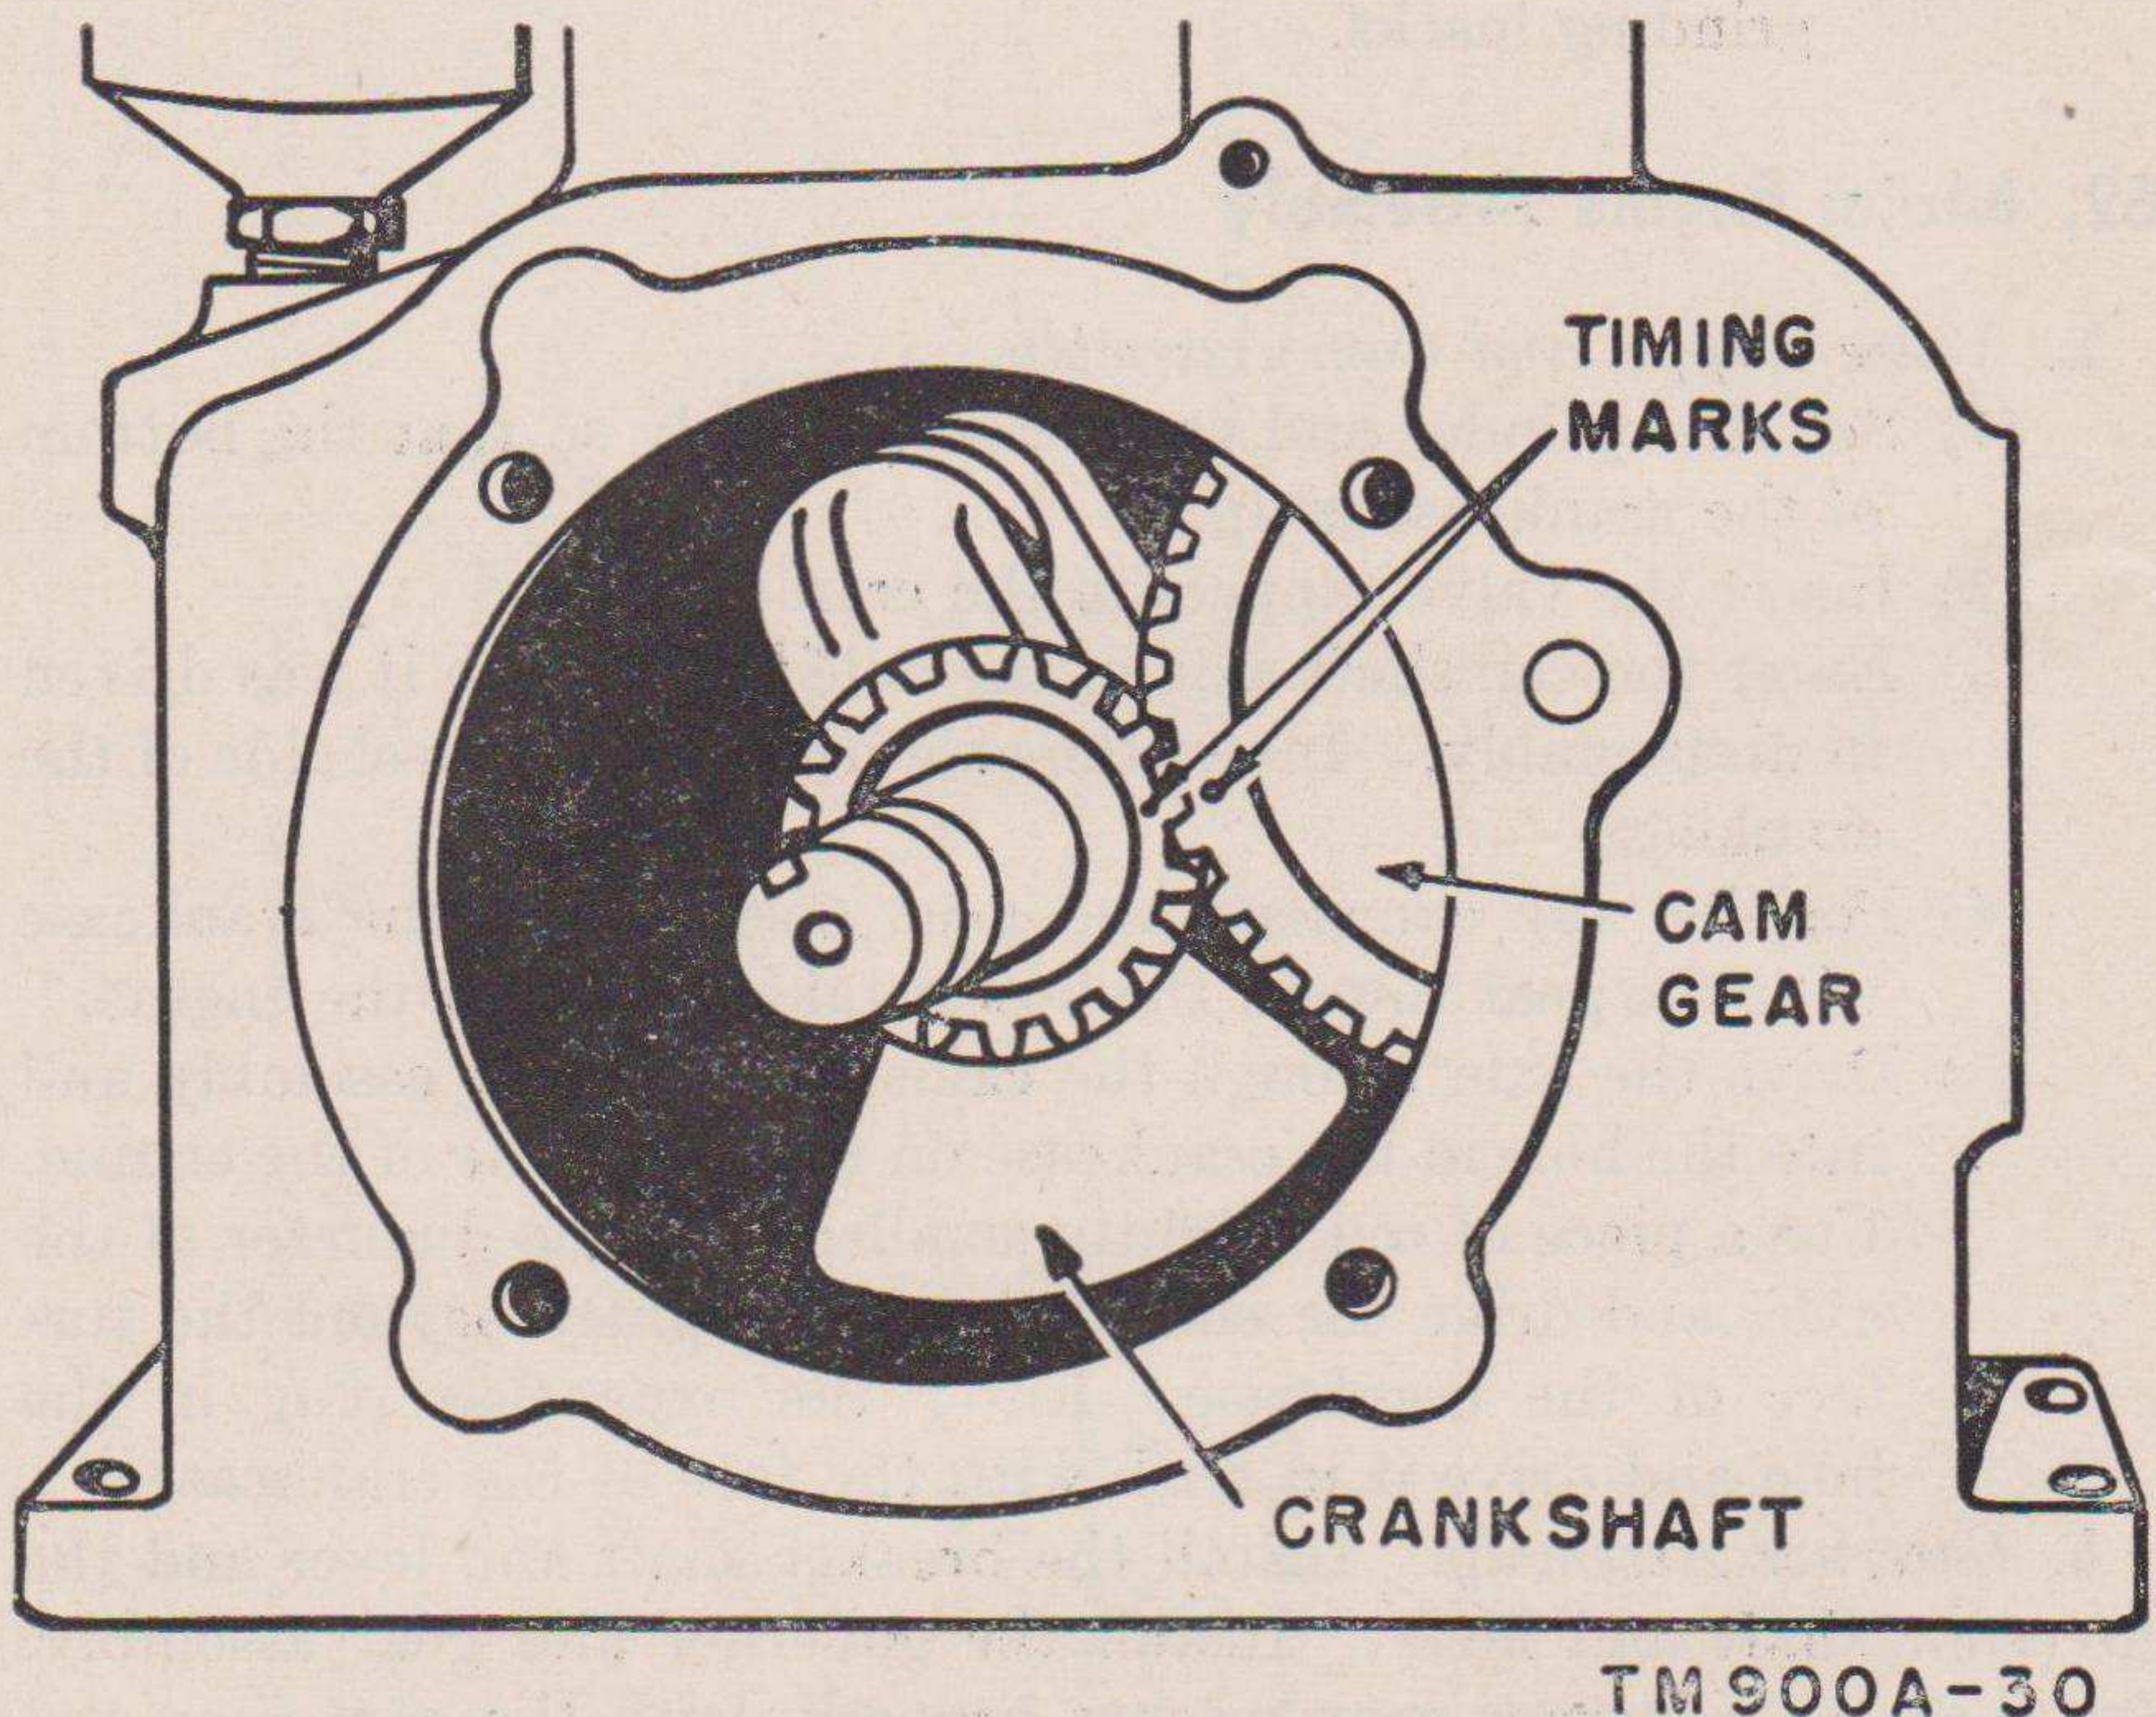

Figure 30. Timing gear markings.
- (3) Install the bearing support plate on the flywheel end of the engine.
- (4) Rotate the cam gear until the timing mark is visible at about the center of the crankcase cover plate opening (fig. 30).
- (5) Insert the crankshaft through the cover plate opening and match the timing mark on the crankshaft gear with the timing mark on the cam gear (fig. 30).